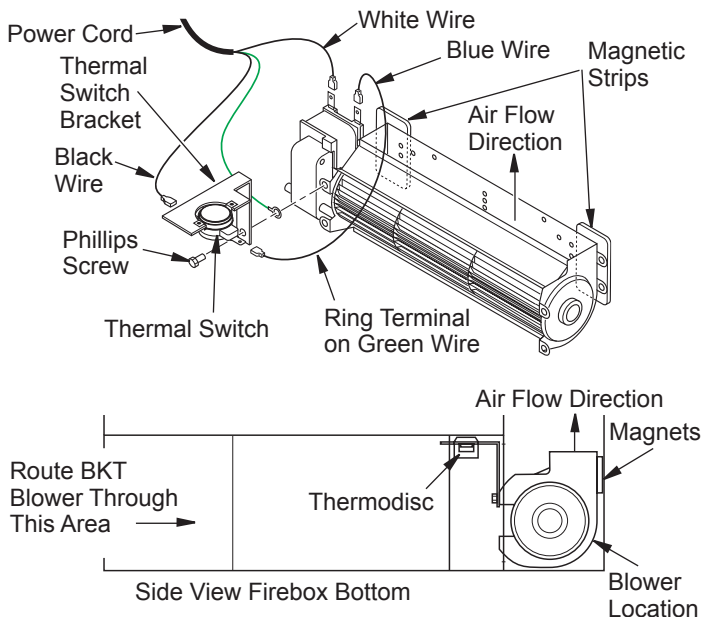

Figure 28 - Blower Model BKT
1. Place the green ground wire with ring terminal between the bottom hole on the thermal switch bracket and the top ear hole on the blower assembly. Insert the phillips screw into all three pieces and tighten securely (see Figure 28).
3. Place the blower against the lower rear wall of the firebox outer wrapper with the exhaust port directed upward and the thermoswitch positioned up near the fireplace bottom. The thermoswitch must be oriented near the fireplace bottom as shown in Figure 28, in order to sense temperature and properly operate. The blower will be held in position against the back wall by the magnets incorporated onto the blower housing (see Figure 28).